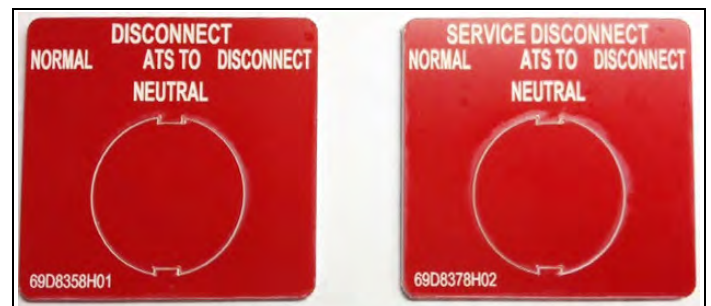

Figure 15. 3 Position Switch Labels Supplied with Kit.
The three position switch (SE) on the device panel is keyed and the key may be removed in the Disconnect position. Figure 15 shows the two labels that are included in the kit. The user will determine which label to put onto the three position switch provided. Just unscrew the collar to add the label. The label "Suitable for use as Service Equipment" will require the service disconnect with visible indication and the neutral assembly with the removable link (neutral bond, neutral to ground connection). See Figure 16 for the 3-pole bond.